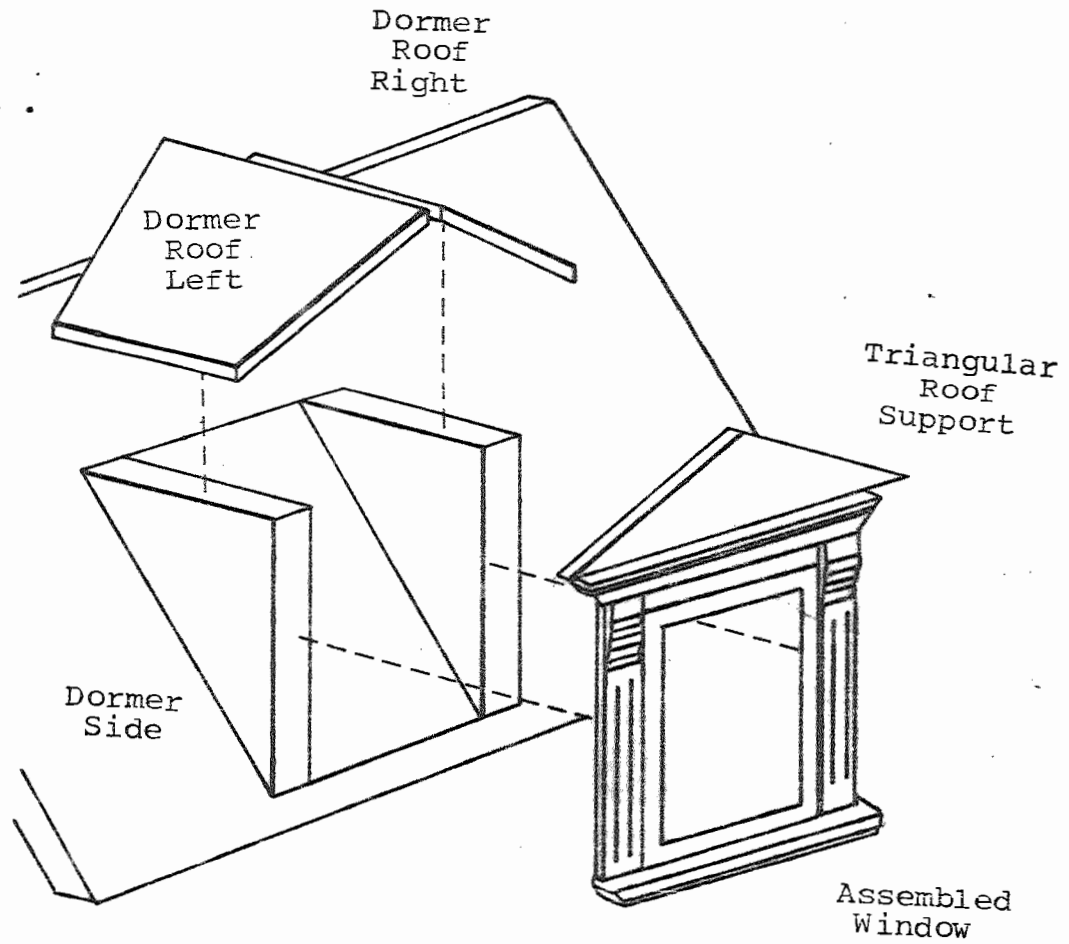

Figure 7
- 23) Refer to Figures 7 & 7A prior to the dormer side assembly.
Glue the dormer sides to the roof sections as shown in Figure 7.